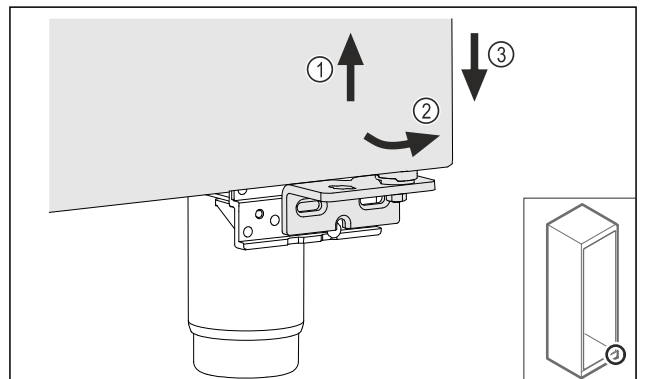

Fig. 27
- ▶ Lift the door slightly *Fig. 27 (1)*, tilt it forwards at the bottom *Fig. 27 (2)* and lower it *Fig. 27 (3)*.